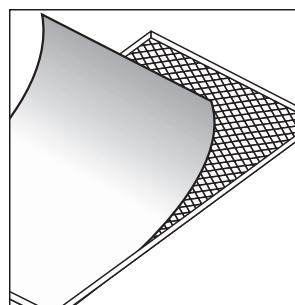

FIGURE 8
3. RC55*i*, RC65*i*, RC85*i* models: Before spray painting the grille, carefully remove the grille's fabric scrim by peeling it away from the inside of the grille [figure 8]. Place this on a clean, flat surface where it will not get wrinkled.